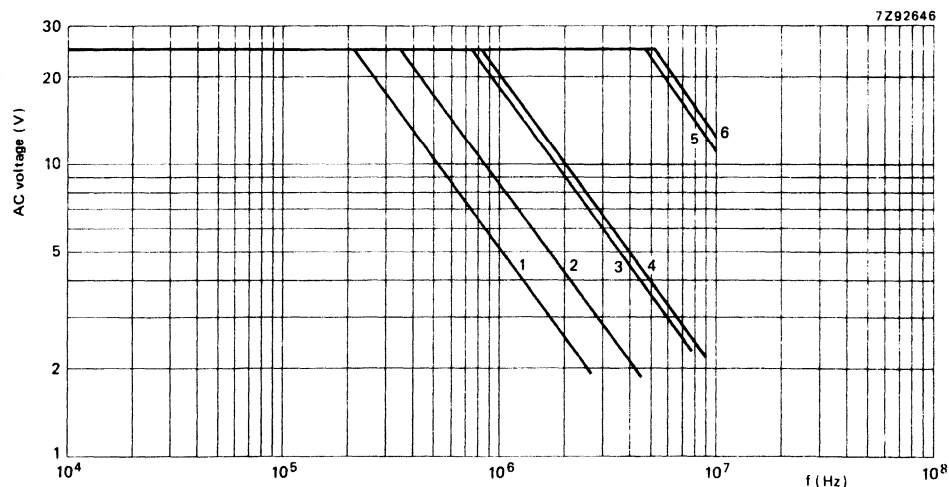

Fig. 7 Maximum AC voltage (RMS value) as a function of frequency at $T_{amb} \leq 55 \text{ }^\circ\text{C}$.
* At $T_{amb} \leq 55$ °C the maximum permissible sinusoidal voltage can be found in Fig. 7.